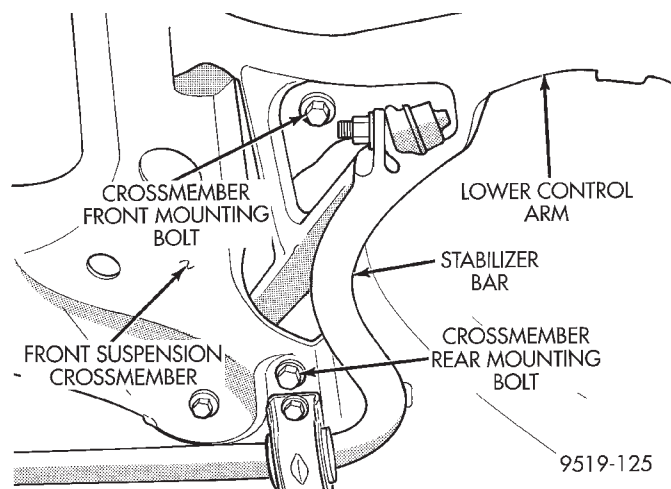

Fig. 17 Crossmember To Body Attaching Bolts
(17) Position a transmission jack under the center of the front suspension crossmember. Transmission jack is used to lower, support and raise front suspension crossmember when removing steering gear assembly.
(18) From each side of the vehicle, remove the 2 bolts attaching the front and rear of the front suspension crossmember to the frame rails of vehicle (Fig. 17).
(3) Using transmission jack, raise front suspension crossmember and steering gear against body of vehicle. Start the 2 rear bolts (Fig. 17) into tapping plates, attaching front suspension crossmember to body of vehicle. Then install the 2 front bolts, (Fig. 17) attaching front suspension crossmember to frame rails of vehicle. Tighten the 4 mounting bolts evenly, until front suspension crossmember is against body of vehicle at the 4 mounting points. Then torque the 4 mounting bolts to 2 N·m (20 in. lbs.) to hold front suspension crossmember in position.